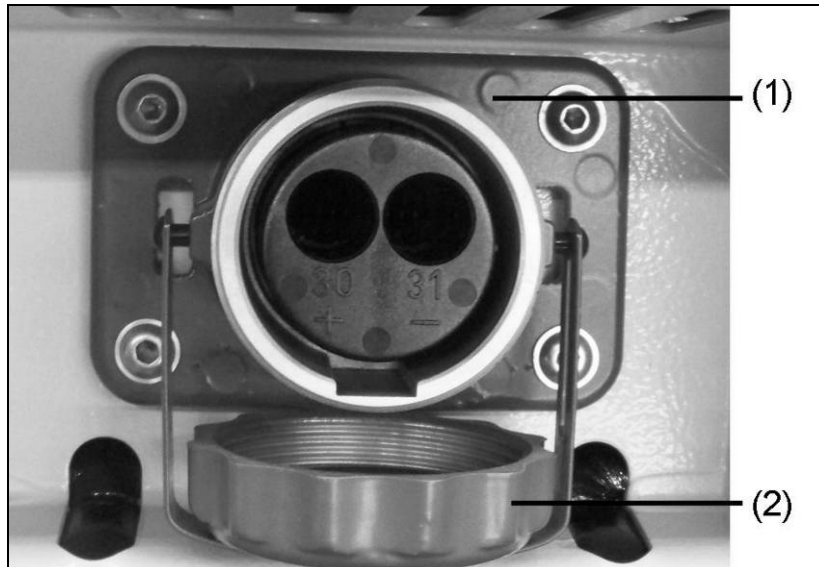

Fig. 5-6: Connecting up an external start device
1. Unscrew cover (Fig. 5-6-(2)) on the external start socket (Fig. 5-6-(1)).